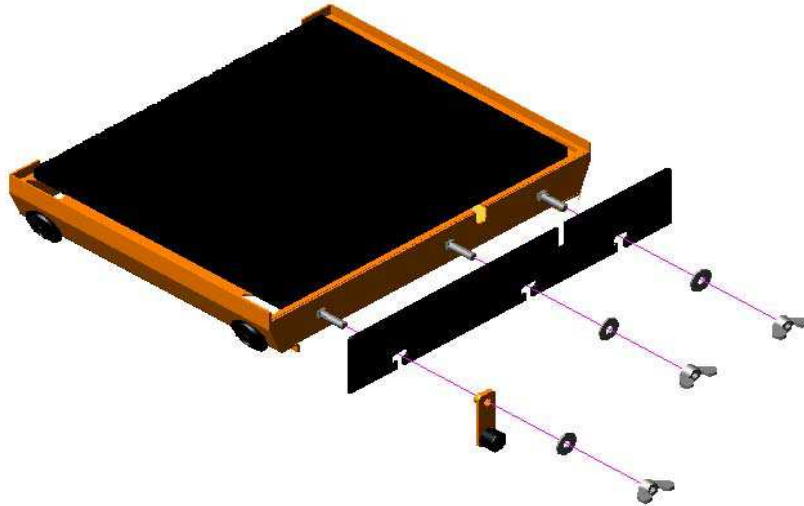
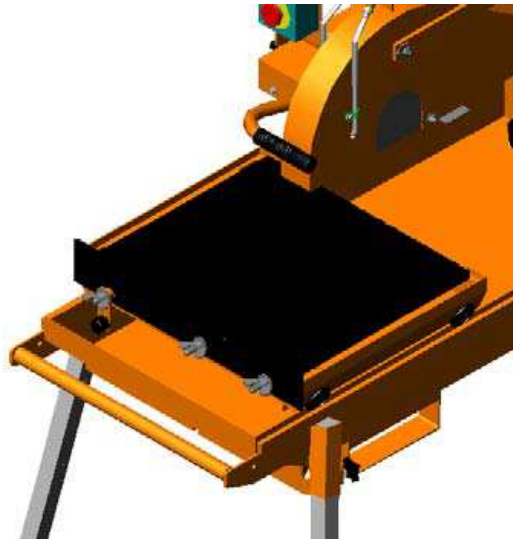

Figure 6: Back Stop Assembly
Figure 7: Conveyor Cart Installation
Remove the Conveyor Cart and Back Stop from the Saws Water Pan, and the Wing Nuts, Carriage Bolts, Washers, and Cart Stop from the plastic bag. Slide one (1) Carriage Bolt thru each of the three (3) Square Holes located on the front of the Conveyor Cart. Slide the Back Stop Over each of the Carriage Bolts. Slide the Stop Assembly over the Carriage Bolt Located on the Left front of the Conveyor Cart NOTE: The Rubber Stop will faces away from the Conveyor Cart. Attach one (1) Washer and one (1) Wing Nut to each Carriage Bolt and Tighten. **See Figure 6: Back Stop Assembly.** Place the Conveyor Cart on the Machine **see Figure 7: Conveyor Cart Installation.**